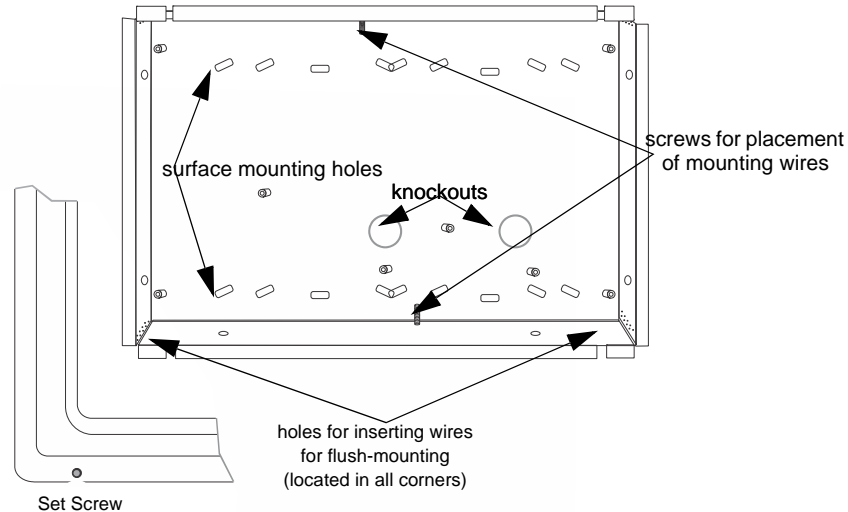

Figure 4.19 Annunciator Backbox and Bezel Details
The RA-1000 comes from the factory fully assembled. You must disassemble it for mounting. To disassemble the annunciator, use a 5/64 hex wrench to remove the set screws, located on the bottom of the annunciator bezel. (See Figure 4.19 for location of the set screws.)
1. Drill holes in the surface to match the screw holes on the backbox. Refer to Figure 4.19 for locations.
5. Replace the electronic assembly in the backbox. Place the bezel over the backbox and tighten the set screws on the bezel. Refer to Figure 4.19 for location of set screws.